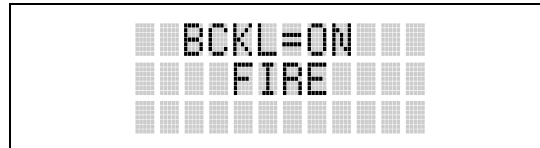

Figure 9-8: Backlight Menu Display
3. Press . The backlight menu item is activated. Line one shows the active menu item and its current parameter setting. Line two shows the currently selected system or group name (see Figure 9-8).